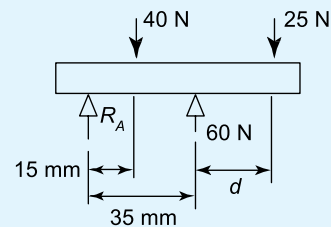

Figure 6.9
4. The forces acting on a beam are as shown in Figure 6.9. Neglecting the mass of the beam, find the value of R_A and distance d when the beam is in equilibrium.